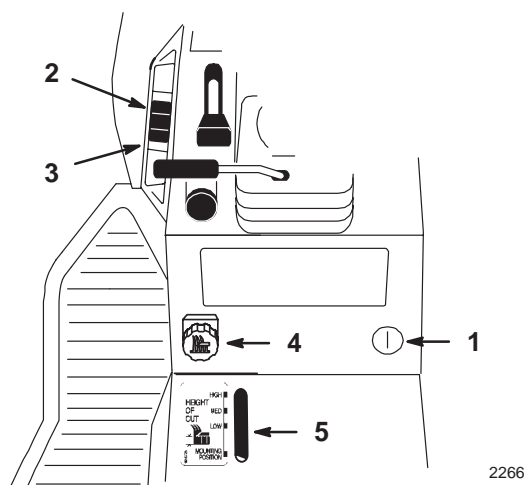

Figure 11
The attachment power lift (Fig. 11) is used to raise and lower attachments.
1. Turn key to the “ON” or “RUN” position (Fig. 11).
2. Push the lift switch in the “UP” direction to raise the attachment lift (Fig. 11). This will lift and hold the attachment in the up, or raised position.
2. Push the lift switch in the “DOWN” direction to lower the attachment lift (Fig. 11). This will lower the attachment lift.
The Dial-A-Height control (Fig. 11) is used to limit the downward travel of the attachment. The Dial-A-Height knob is rotated to change the location of this stop, up or down.
1. Raise the attachment lift lever: Refer to Raising Attachments. In the raised position the Dial-A-Height knob (Fig. 11) can be rotated to change the stop location. Turn clockwise to raise and counterclockwise to lower the height of the attachment.
2. The Dial-A-Height indicator (Fig. 11) will show the change, high to low, in attachment lift height as adjustment is made.